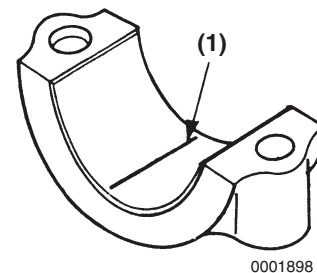

Figure 5-110
3. Place a piece of PLASTIGAGE® (**Figure 5-110, (1)**) along the full width of the bearing insert. **NOTICE: NEVER rotate crankshaft when using PLASTIGAGE. A false reading may result.**